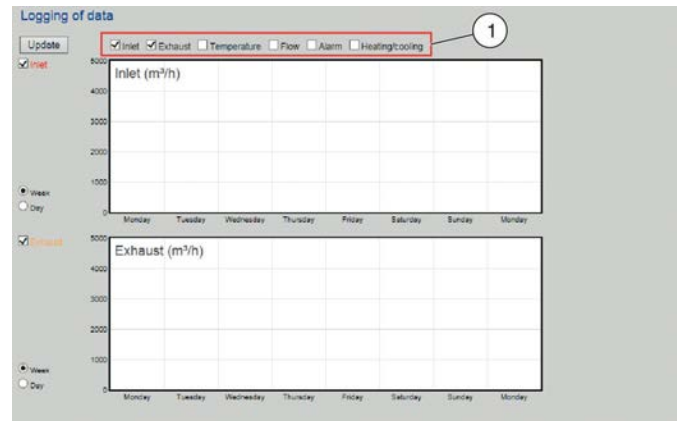

Fig. 40: Viewing measured values
The 'Logging of data' screen (Fig. 40) allows you to view the measured values for the last 7 days or for the last 24 hours. You can view the following measured values:
- ▶ Select the parameter for which you want to view measured values (Fig. 40/1).